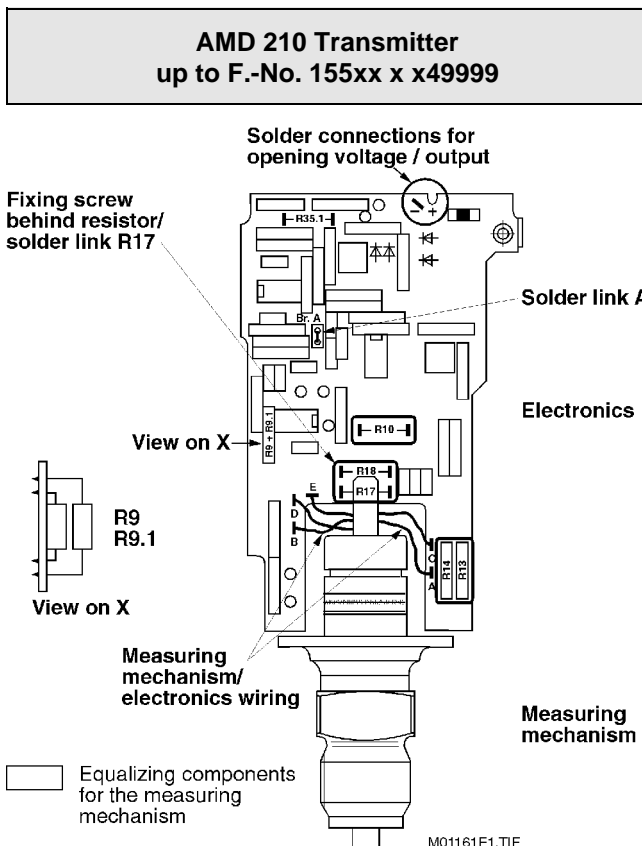

Fig. 27. Component side of the Measuring Mechanism / Electronic Unit
2. Unsolder the **wiring** between the measuring mechanism and the electronics on the electronic pcb (solder terminals A,B,C,D and E, see Fig. 27). Observe soldering instructions!
6. Resolder the **equalizing components for the measuring mechanism** (Fig. 27) from the defective electronic pcb onto the new one. Observe the soldering instructions.
7. If **resistor R9.1** is not soldered in on the defective electronic pcb (see Fig. 27), then R9.1 is to be cut out of the new electronic pcb.
3. Unsolder R10, R17, R18 and either R13 or R14 (Fig. 27, equalizing components for the measuring mechanism) and loosen the **fixing screw** (Phillips screw, size 0 screwdriver) underneath R17. Lay the defective measuring mechanism on one side.
6. Solder the **equalizing components supplied with the measuring mechanism** into the corresponding places on the electronic pcb (Fig. 27, equalizing components for the measuring mechanism). Observe the soldering instructions!